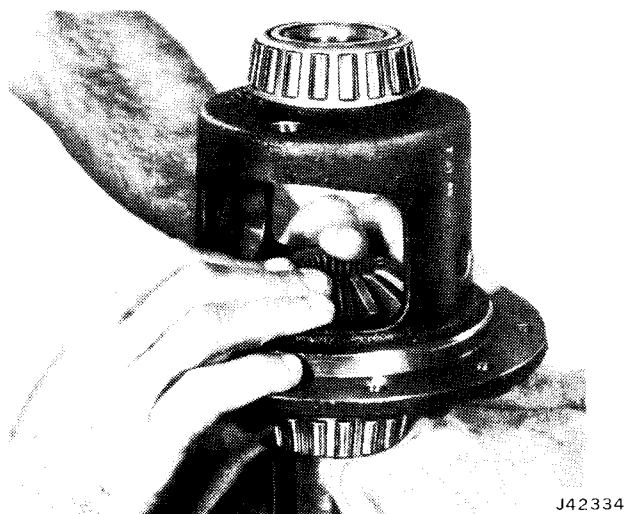

Fig. 10-73 Mounting Differential Case on Axle Shaft
(1) Lubricate differential gear teeth, thrust faces and splines. Lubricate clutch discs and plates. Use Trac-Lok lubricant or equivalent only.
(2) Assemble clutch packs. Install plates and discs in same position as when removed regardless of whether they are replacement or original parts.
(3) Install clutch retainer clips on ears of clutch plates. Be sure clutch packs are completely assembled and seated on ears of plates.
(4) Install clutch packs on differential side gears and install assembly in case.
**NOTE:** Be sure clutch pack stays assembled on side gear splines and that retainer clips are completely seated in case pockets. To prevent pack from falling out of case, it will be necessary to hold them in place by hand while mounting case on axle shaft (fig. 10-73).
(5) Mount case assembly on axle shaft (fig. 10-73).